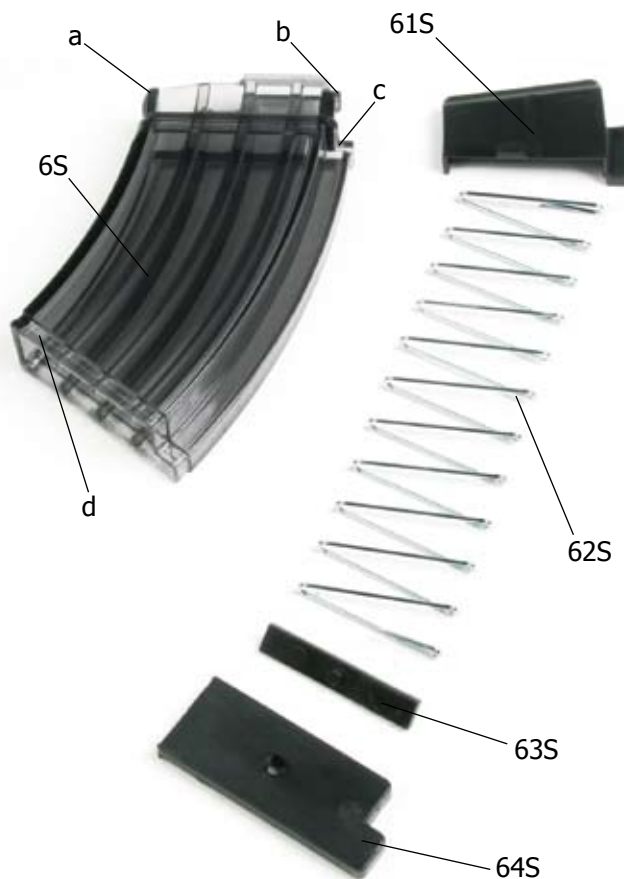

Fig. 23 Magazine /disassembled/
1. Magazine 6S (Fig. 23) is intended for continuous loading of the rifle with cartridges during firing. It is of an arched shape and takes 10 cartridges. It consists of magazine body 6S, magazine follower 61S with magazine spring 62S, magazine safety 63S and magazine floor plate 64S.